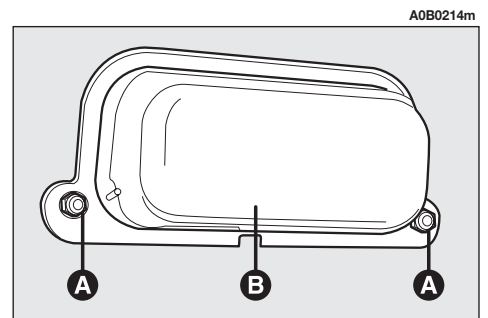

fig. 43
- Slacken the two fastening screws (**A-fig. 43**) and remove the protective cover (**B-fig. 43**).
– Refit the protective cover (**B-fig. 43**) fastening with nuts (**A-fig. 43**).